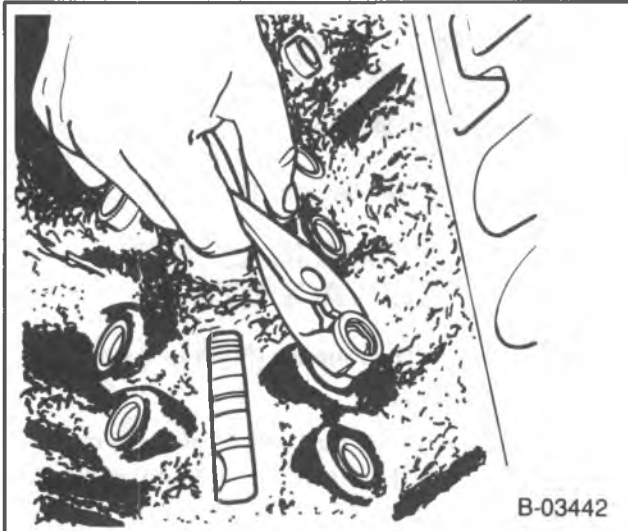
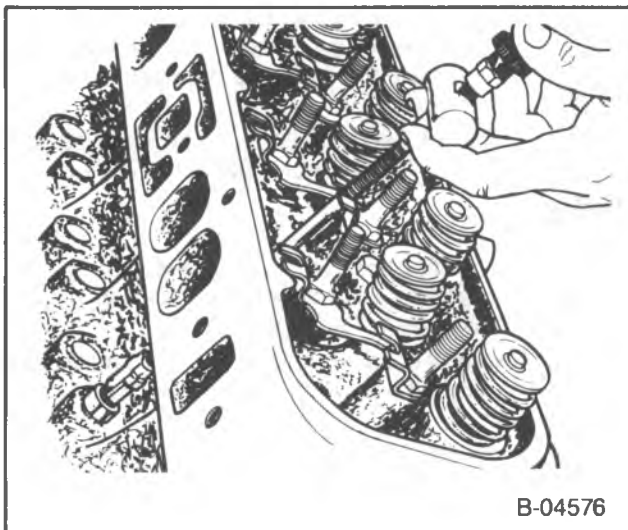

Figure 7 — Removing the Valve Lifter Using J 3049
Figure 8 — Removing the Valve Lifter Using J 9290-01
Remove or Disconnect (Figures 7 and 8)
- A stuck hydraulic lifter can be removed using J 3049 (figure 7) or J 9290-01 (figure 8).